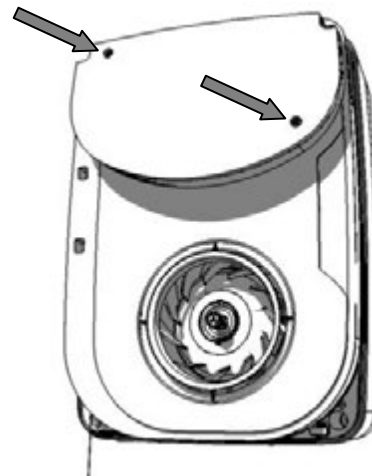

Fig.14
12) Re fit Electrical Cover with 2 screws indicated In Fig 14